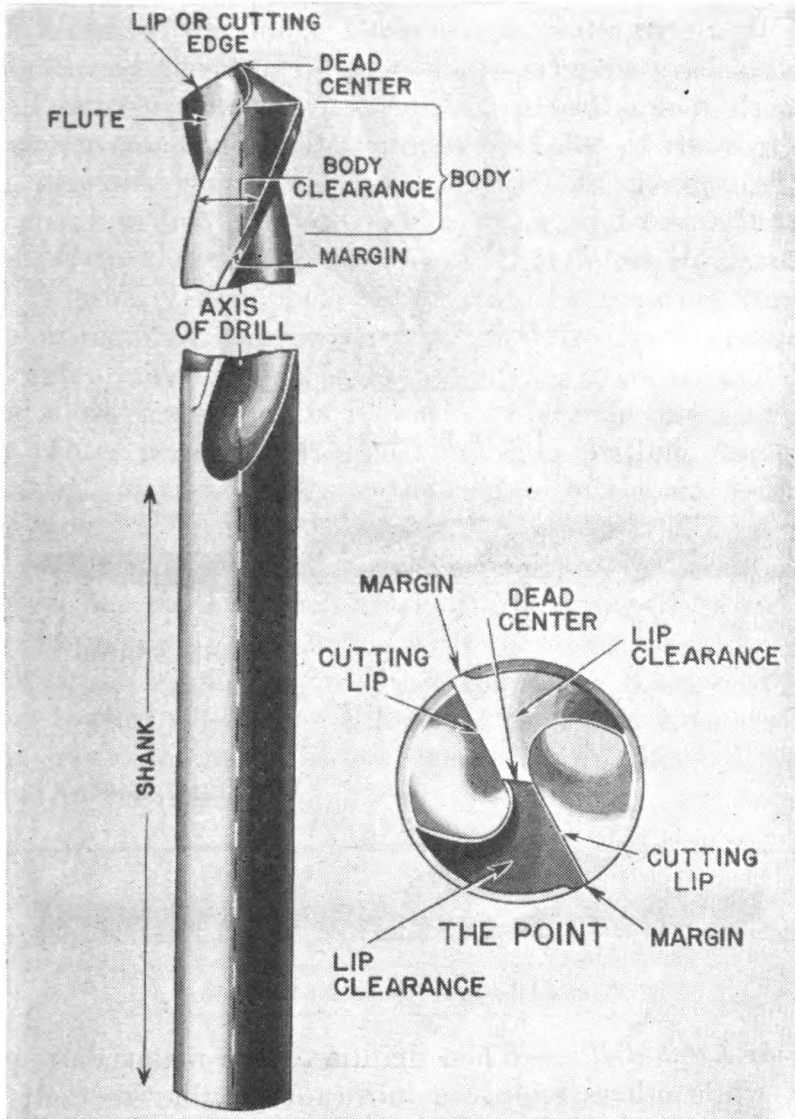

FIGURE 39.—Twist drill.
(or sharpened) is a very efficient tool. Figure 39 shows a twist drill and the nomenclature of its parts. Twist drills are made either of carbon steel or high speed steel; the nature of carbon steel is such that if heated excessively and allowed to cool, it will lose its hardness; high speed steel, on the other hand, has the property of "red hardness"; that is, it can become red hot without losing its temper. For any drilling at high speed, therefore, high speed steel twist drills should be selected to obtain best results and lasting cutting effectiveness. The three principal parts of twist drill are the body, shank, and point, and they are available with either two, three, or four flutes (the spiral grooves formed along the sides), but drills having three or four flutes are used for following smaller drills or for enlarging cored holes and are not suitable for drilling into solid stock. These spiral flutes give twist drills four definite advantages:
12. Grinding and sharpening drills.—*a. General.*—Before any drill is used on any kind of work, it is very important that it be correctly ground and sharpened. The automotive mechanic should understand the method of doing this, because unless the drill is in proper condition for work it will almost certainly make a hole that is rough or off size and perhaps break while in use. The mechanic should become familiar with the various parts of the drill shown in figure 39 so that he can understand clearly the work of grinding and sharpening.
(5) *Margin.*—The margin is the narrow strip, shown in figure 39, which extends the whole length of the flutes and is practically the full diameter of the drill. Actually, the margin is part of a cylinder that is interrupted by the flutes and by what is known as body clearance.
(6) *Body clearance*.—The portion of the drill back of the margin, shown in figure 39, is of slightly less diameter than the margin, and the difference is known as body clearance. This clearance reduces the friction between the drill and the walls of the hole, while the margin insures the hole's being the right size.